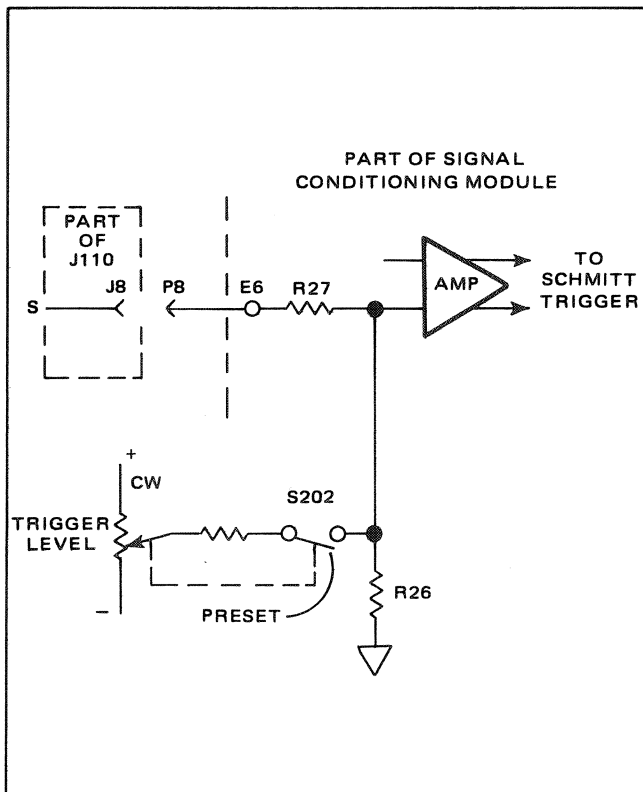

Figure 3.6 - Remote Trigger Level Control (008)
3.26 The remote trigger level circuitry, shown in figure 3.6, consists of a resistor (R27) tying the external control line (J110-S) to the trigger level circuitry. The front panel trigger level control consists of a potentiometer with a built-in switch that opens the circuit in the CCW position (PRESET). The control is placed in the PRESET position when the remote trigger level control is to be used. Because the remote trigger level control line is continuously in the circuit, it is recommended that it be externally opened when local control is used. Resistors R27 and R26 form a 10:1 voltage divider; a maximum input level of 30 volts, therefore, produces an input of 3 volts to the reference input of the amplifier.